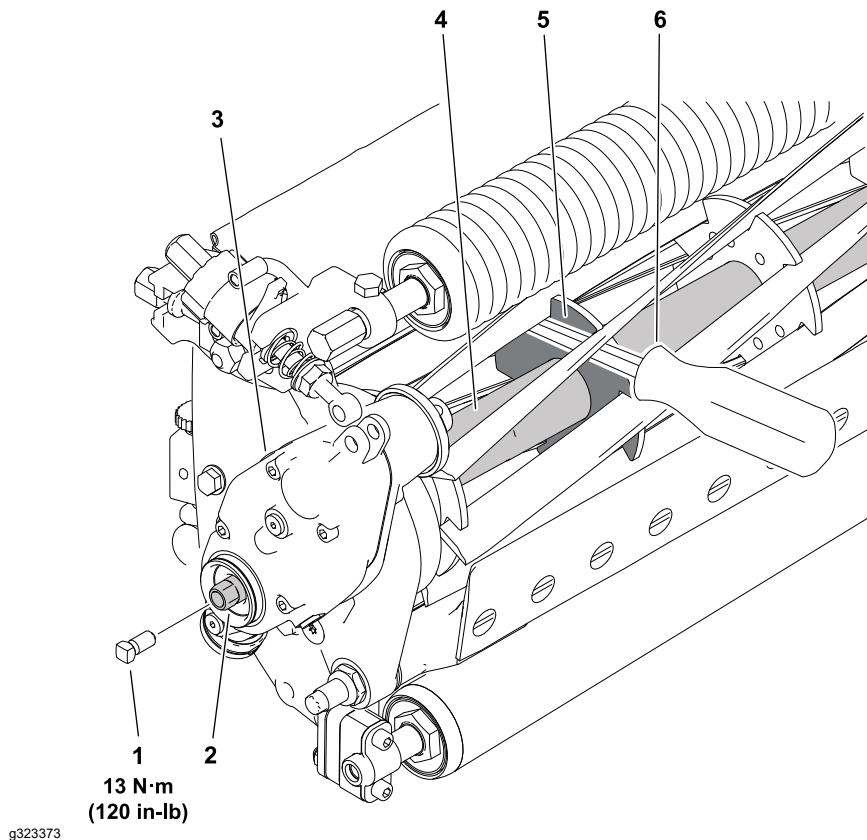

Figure 3
4. Install a 5/16–18 X 5/8 inch square head set screw (Toro p/n 1-803022) in the end of the drive shaft and tighten to **13 N·m (120 in-lb)**; refer to Figure 3.